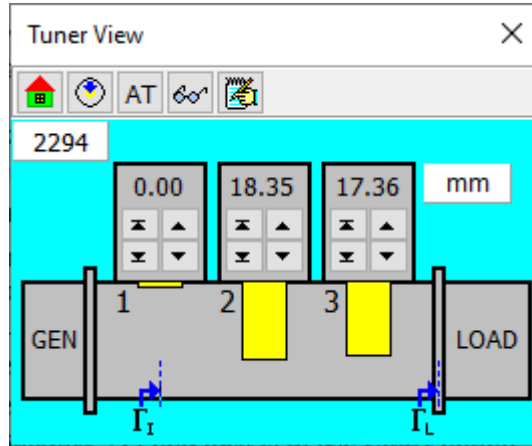

Fig. 4. **Tuner View** window of the **HoSim** program.
- Open the **Tuner View** window (Fig. 4) by clicking the menu item **Tuner|View**, or the toolbar button .